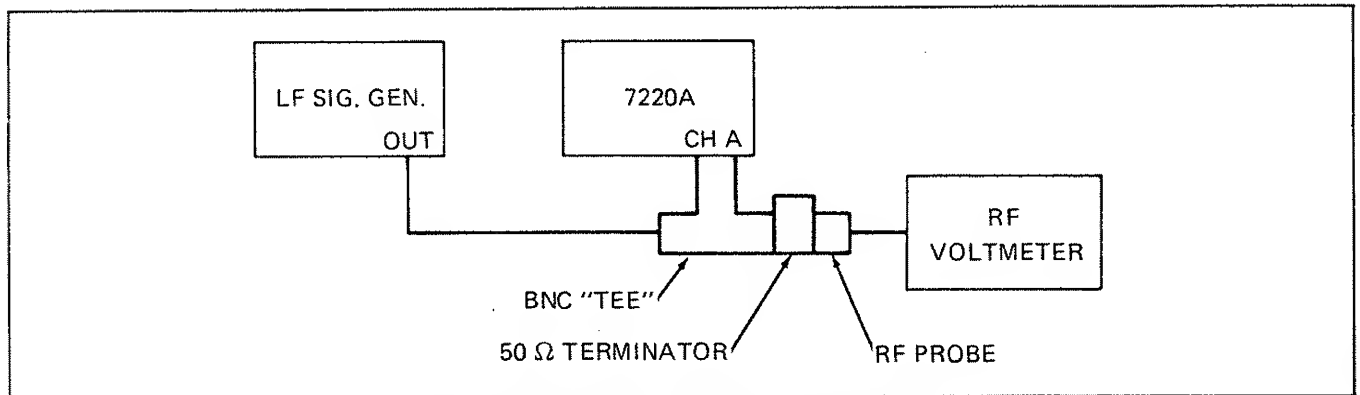

Figure 4-9. Channel A Trigger Level Adjustment
1. Using appropriate BNC adapters, connect the Low Frequency Signal Generator and the rf voltmeter with a 50 ohm terminator to the Channel A input of the 7220A. This is illustrated in Figure 4-9.